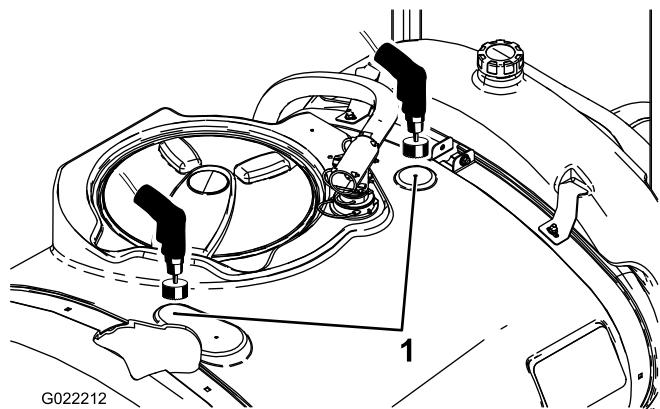

Figure 4
2. Locate the two drill marks on the main tank (Figure 4).